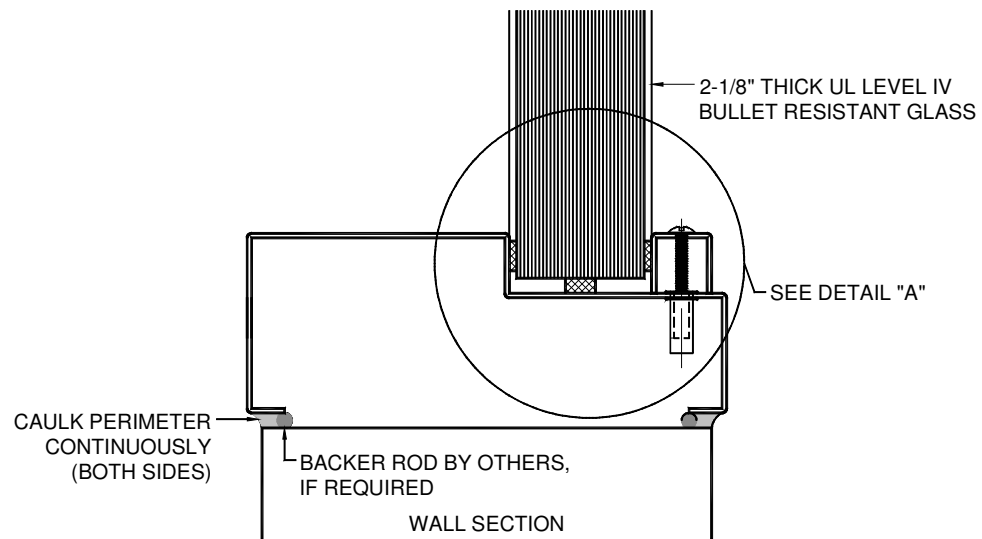

FIGURE 2
- G. Caulk frame continuously around perimeter of frame on both sides as shown in Figure 2.
- F. Caulk frame continuously around perimeter of frame on both sides as shown in Figure 2.
- D. Caulk frame continuously around perimeter of frame on both sides as shown in Figure 2.
- D. Caulk frame continuously around perimeter of frame on both sides as shown in figure 2.
- A. Locate the 3/16" x 1/2" adhesive backed sponge neoprene on the sill portion of the frame rabbet as shown in **Figure 2**.
- B. Place 3/16" x 1/2" adhesive backed neoprene continuously around perimeter of frame stop, as shown in **Figure 2, Detail "A"**.
- C. Place 3/16" x 1/2" adhesive backed sponge neoprene on the entire length of each loose stop as shown in **Figure 2, Detail "A"**.